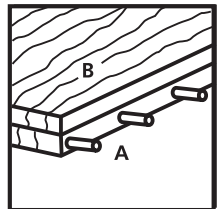

Figure 18
8. Remove board A from the clamps and lay it flat on the workbench with the dowel pins facing out. Place board B on top of board A with the side you want to drill facing up. Line up the end of the boards using a square. Clamp both boards on both sides of the workbench. See Figure 18.